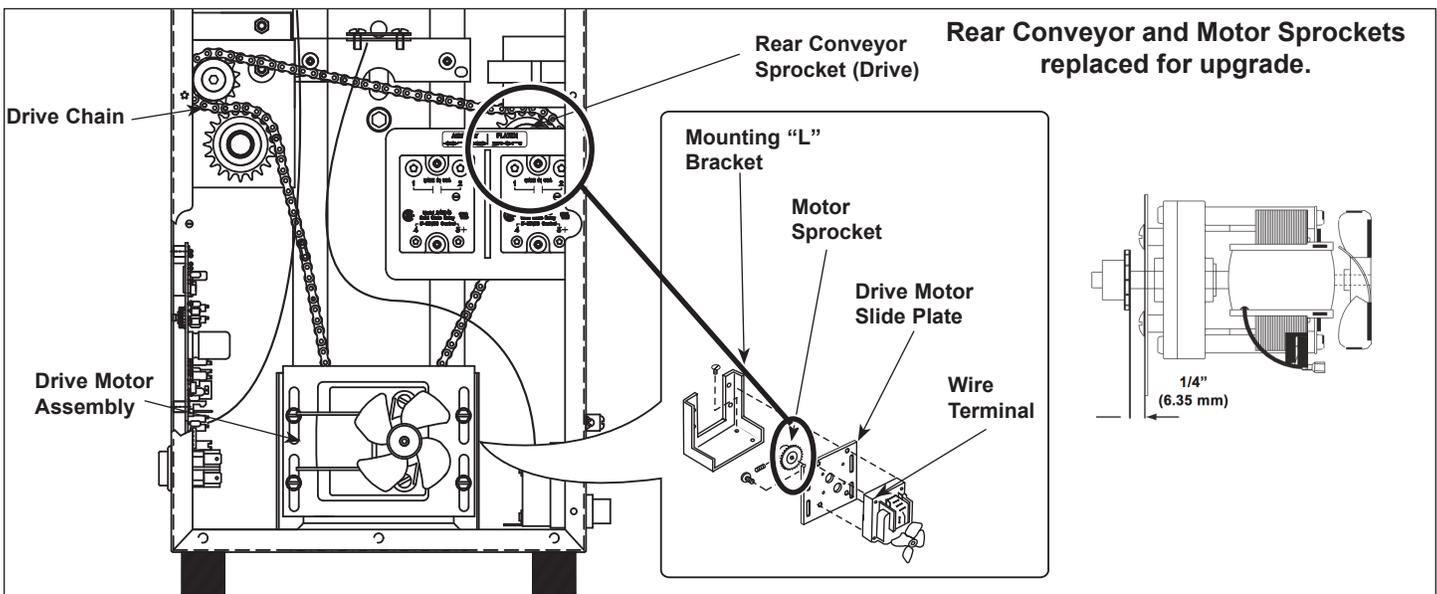

Figure 1. Removing Drive Motor
4. Remove the four 1/4" screws securing the motor Slide Plate and remove the drive motor assembly (Figure 1).
5. Loosen the set screw on the motor sprocket using the 1/8" hex wrench, remove it from the motor shaft and discard the old sprocket and setscrew. (Figure 1).
NOTE: Be sure the Motor Sprocket Setscrew is positioned on the flat of the gear box shaft. Maintain the 1/4" (6.35 mm) dimension as shown in Figure 1).